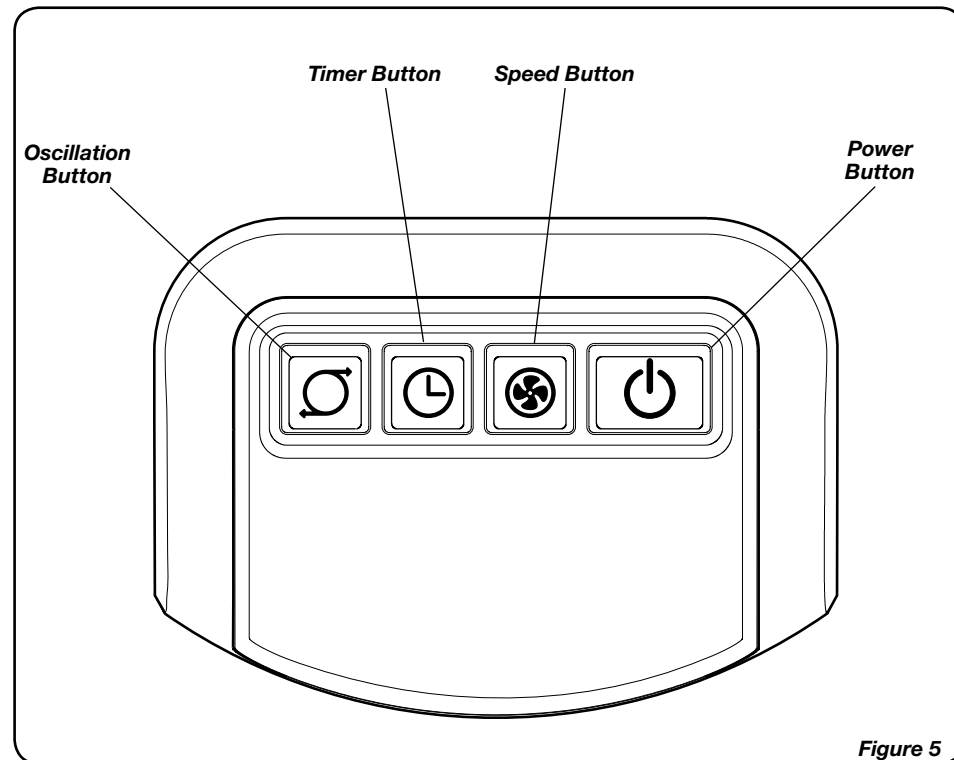
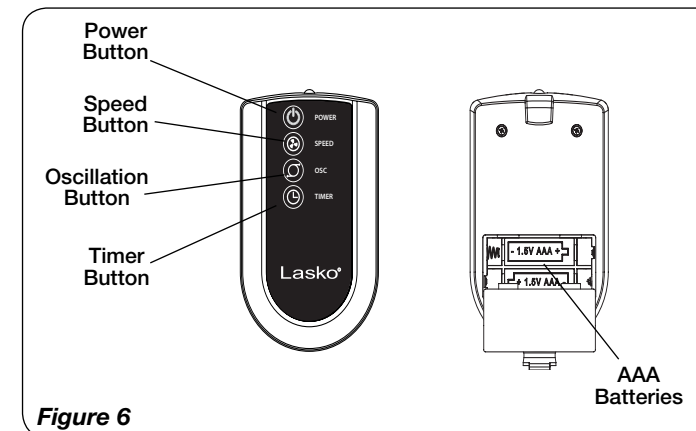

Figure 5
Figure 6
OPERATION (Figures 5 and 6)
This Fan may be operated by the Manual Controls located on top of the unit (as shown in **Figure 5**) or by the Remote Control (shown in **Figure 6**).
REMOTE CONTROL (Figure 6)
1. Install batteries (not supplied) as shown in *Figure 6*. The battery is size "AAA".